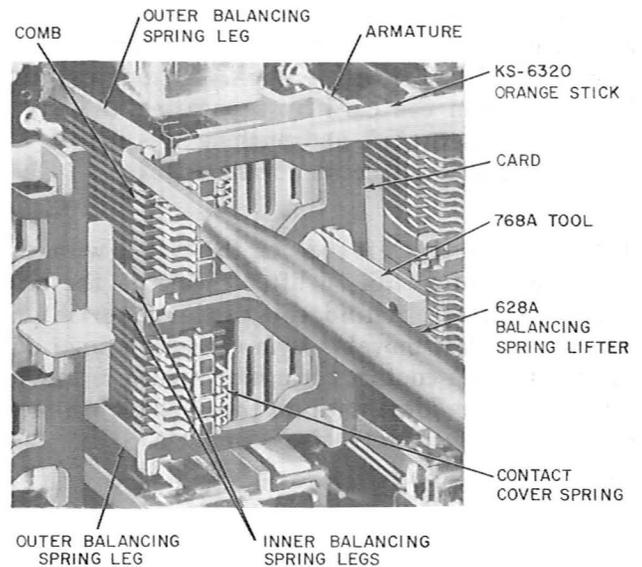
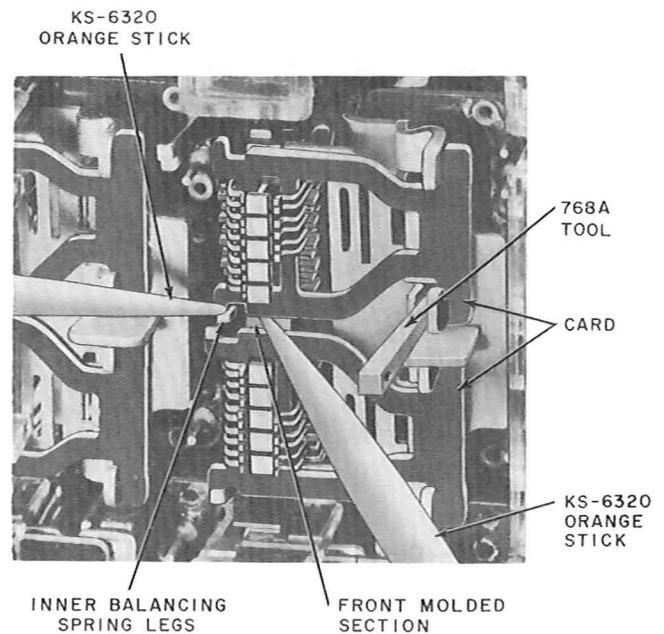

Fig. 4—Disengaging Outer Balancing Spring Leg From Upper Card
Fig. 5—Disengaging Inner Balancing Spring Leg From Upper Card
3.11 *Balancing Spring Legs Engaging Upper Card:* Block the associated armature in the operated position with the 768A tool. To disengage the outer leg of the balancing spring, hold the 628A balancing spring lifter in the left hand and insert the lifter next to the leg so the end of the lifter is just behind the comb. Roll the end of the lifter under the leg of the spring so the leg rests in the groove of the lifter. Draw the lifter forward to the position shown in Fig. 4. With the other hand, place the end of a KS-6320 orange stick on the top edge of the card as shown in the figure. Lift the spring upward with the lifter and, at the same time, press the card downward with the orange stick. When the leg of the spring clears the top of the card, move it toward the left so it is free of the card. Withdraw the spring lifter. To disengage the inner balancing spring leg from the card, hold the orange stick in the right hand and insert it between the two cards so the end of the orange stick is against the front molded section. Rotate the orange stick to separate the cards. With a second orange stick, push down on the end of the balancing spring leg as shown in Fig. 5 and disengage it from the notch in the card. Remove the wedge.